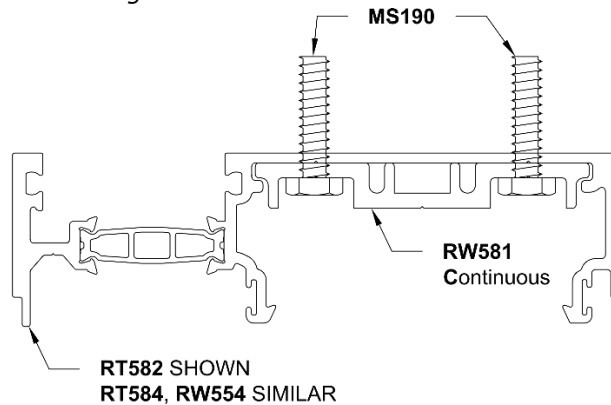
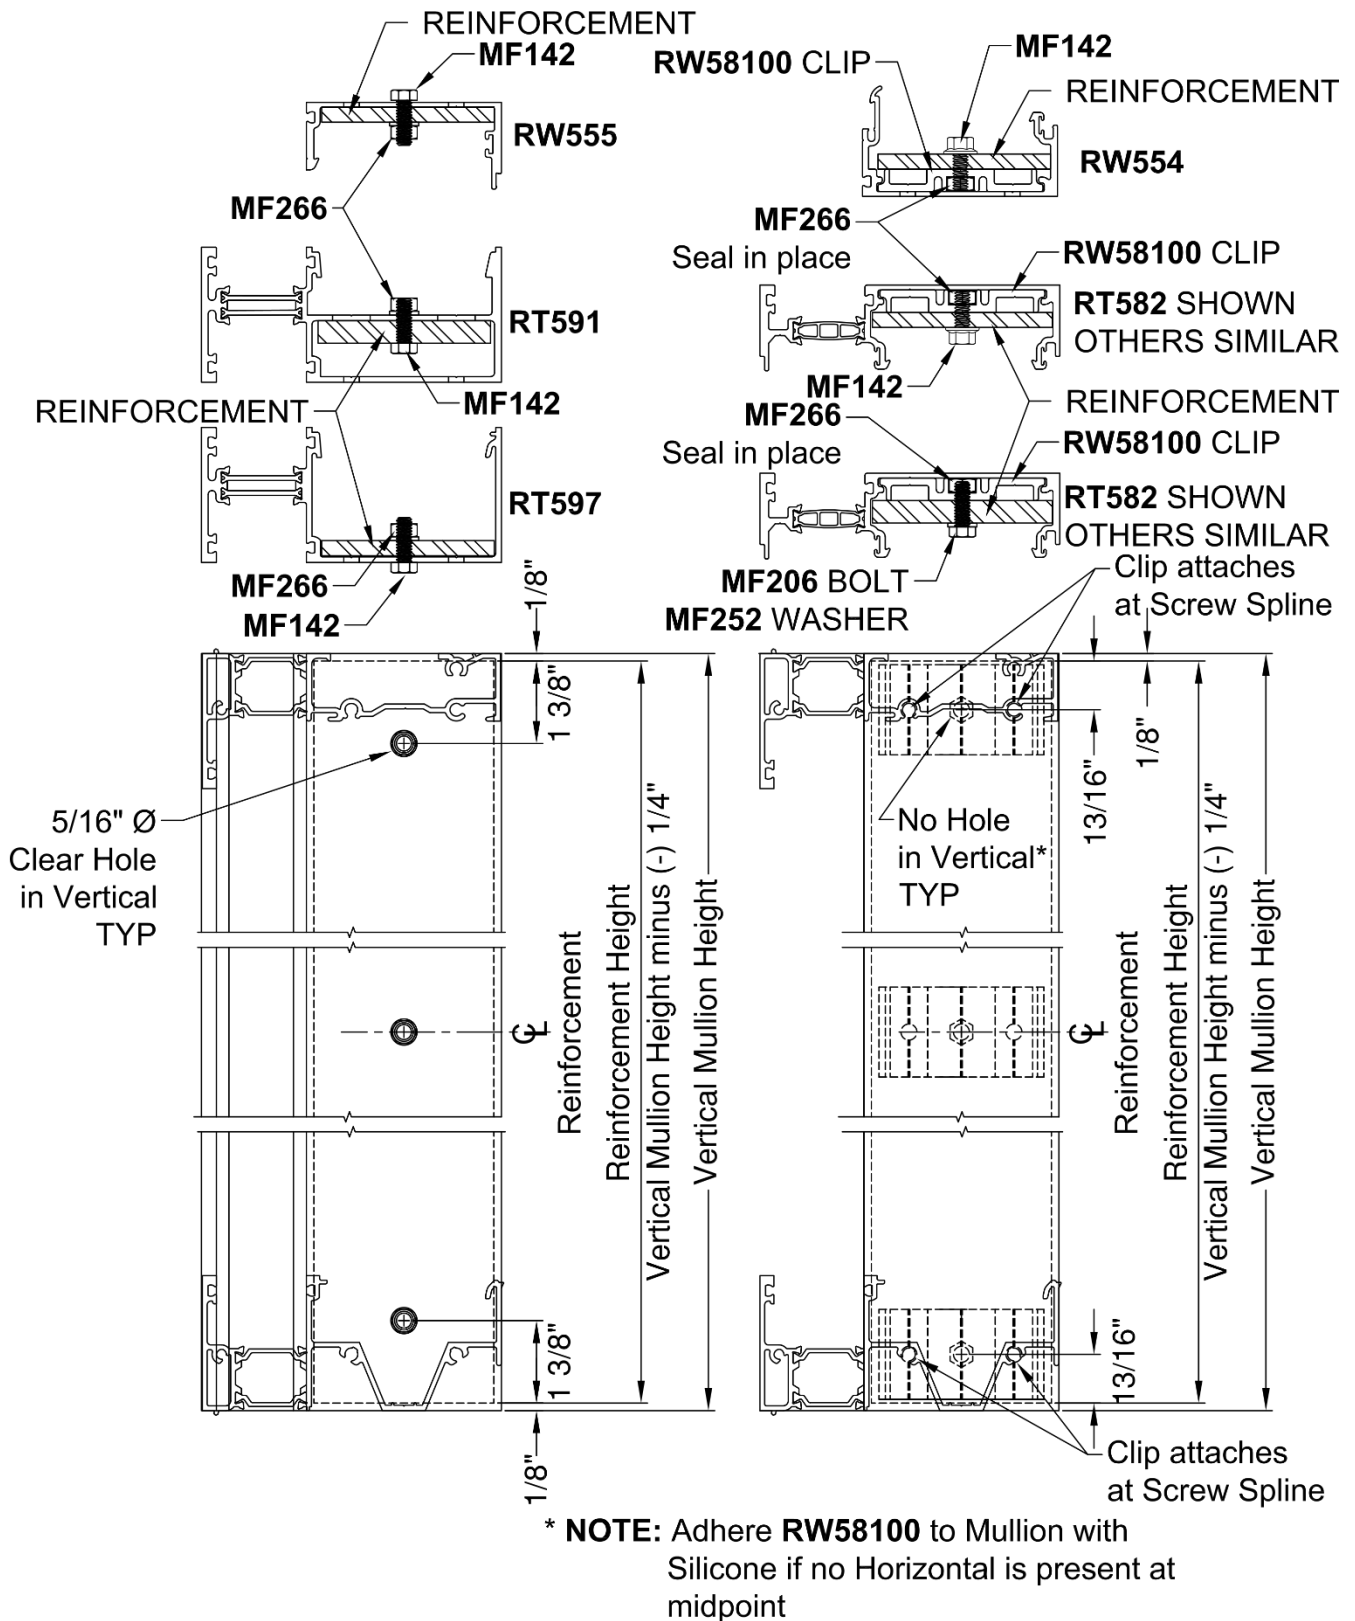

Figure 13: RW581 Continuous Reinforcement Attachment
Figure 14: Reinforcement Bar Guide
- 5.1.2 Slide the Reinforcement into Vertical following the location shown in *Figure 14*.
- 5.2.4 Anchor Horizontal members through **RW581** per *Section 12.0* panel assembly. See *Figure 13* and *Figure 14* for section visuals.
- 5.3.6 Slide reinforcement bar into place and secure into place using **MF142** fasteners for 1/4" thick reinforcement or **MF20642** and **MF25200** for 3/8" thick reinforcement. See *Figure 14*.